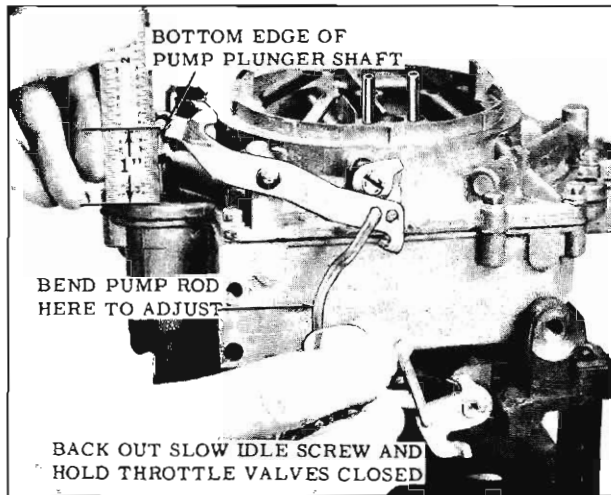

Fig. 4-173 Pump Rod Adjustment
1. While holding the throttle valves closed, idle speed screw backed out, measure the distance from the top of the air horn casting to the bottom edge of the pump plunger shaft. It should be 1. (Fig. 4-173)